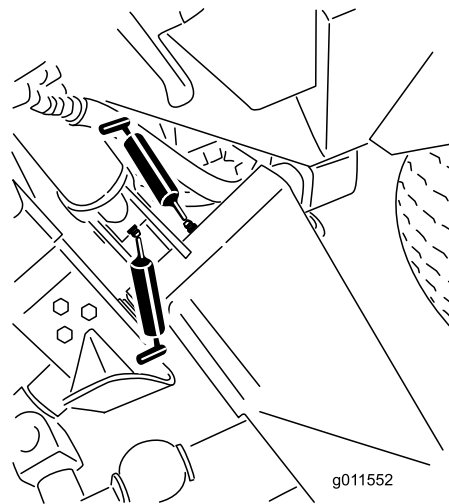
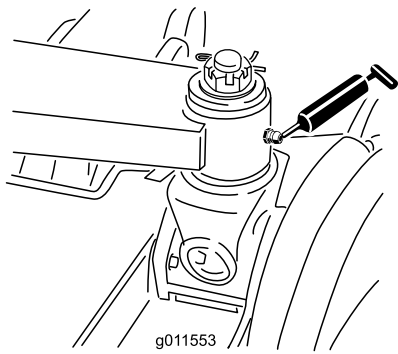

Figure 66
Figure 67
- Main lift arm bushings (6) (Figure 66 and Figure 67)